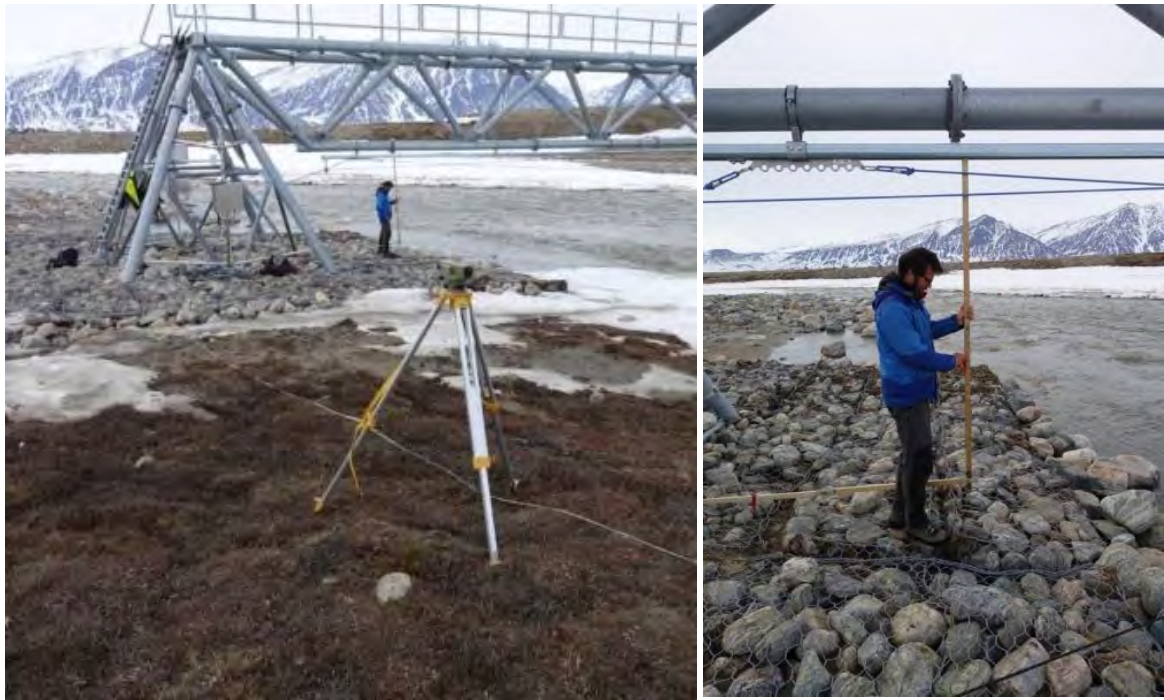

Figure 57: Lineup for levelling of the hoist trolley
- 1) When levelling the hoist trolley (to which all manual water level measurements are performed see section 8.3), you have to place the ruler up side down, as shown in Fig. 57. Make sure that zero on the ruler is above you. In order to do so, you need to bend the ruler as shown in Fig. 57.
- 2) The tripod has to be placed relatively low in the landscape (Fig. 57) and you can only relate the hoist trolley to fix point 3 (you cannot use the same tripod lineup for both hoist trolley and distance sensor).